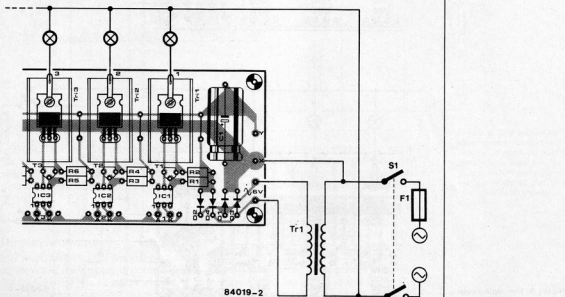
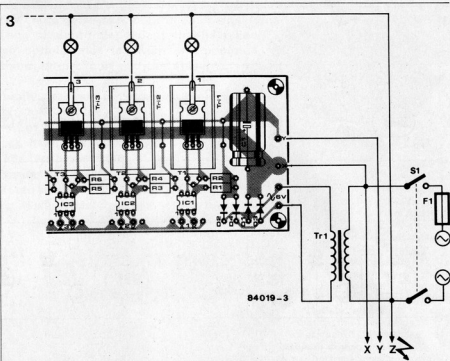

Figure 2. In general, the mains wiring of a single triac control board should follow that shown here.
Figure 3. If a single triac control board is used in conjunction with the Programmable Disco Light Display, the mains wiring should be as shown here.
Relating this to the circuit diagram of figure 2, we see that the terminals a and b are connected across the c.b. points. Every time the points open this information is transmitted via the filter network to T1 so this transistor conducts for a short time. This provides a signal that is fed to one of the inputs of the schmitt trigger N1. The output of N1 generates one pulse corresponding to each opening of the c.b. points and this output is fed to the trigger inputs of MMV1 (TR) and MMV2 (TR). What happens next depends on the time, t , between two successive pulses.
Figure 2. The circuit as shown here uses freely available common components. It takes its power from a fused 12 V line in the car and senses the engine speed from the frequency of the signal from the c.b. points.
The triac control board can be used for many applications and, in general, the wiring should follow that given in figure 2. If the triac control board is to be used with that of the Elektor Programmable Disco Light Display, the wiring should be as illustrated in figure 3 for a single triac control board or figure 4 for two boards. Three or more boards are connected in the same way.